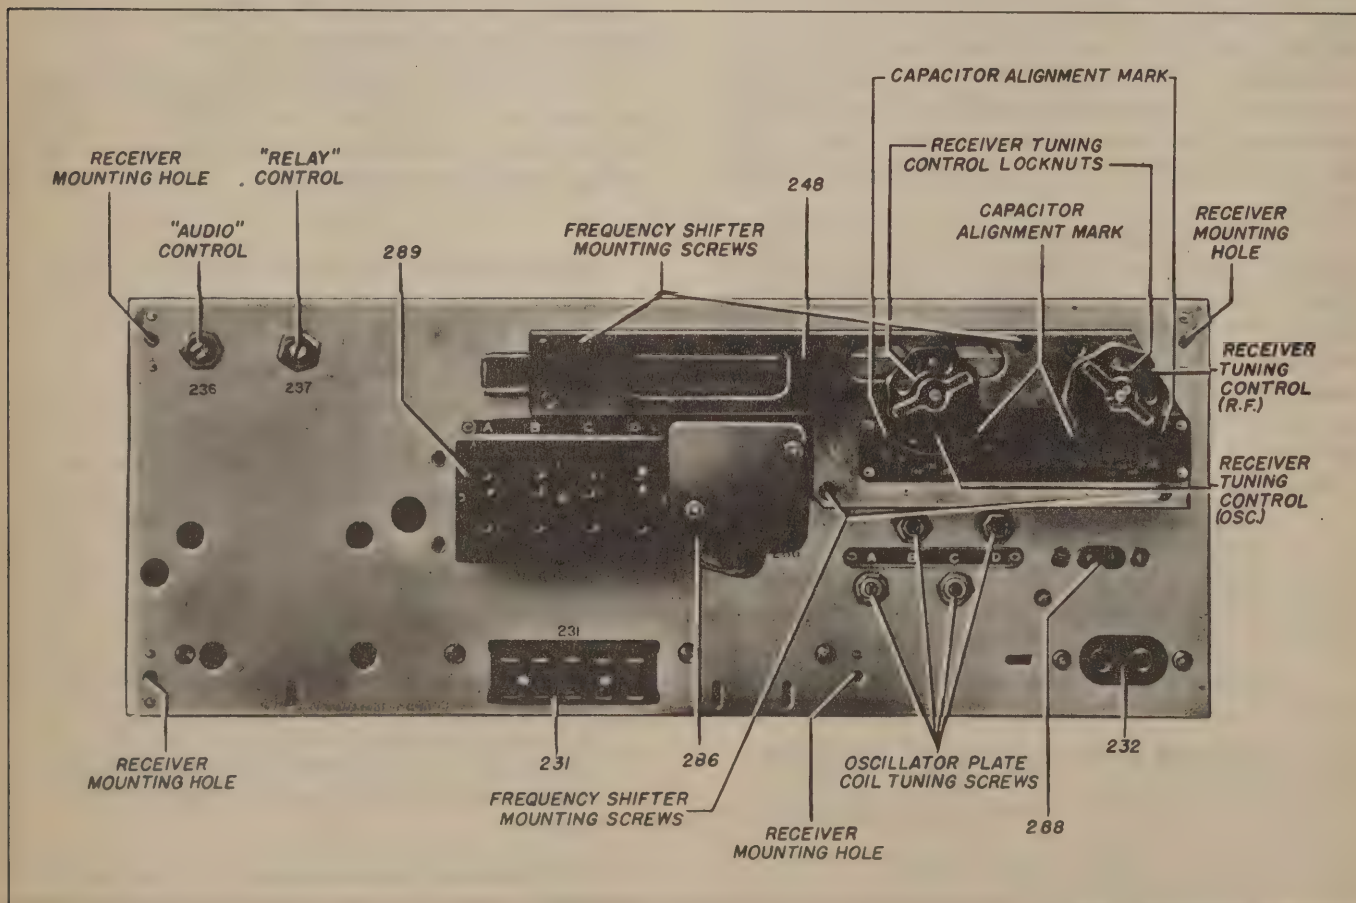

Figure 5-11. Radio Receiver BC-624-A or BC-624-AM—Top View
(4) Remove the transmitter-receiver assembly from Case CS-80-A or CS-80-C.
(5) With Signal Generator I-96-A set up within 5 feet of the radio receiver to be tuned, plug one end of the signal-generator d-c meter cord into the receiver control milliammeter socket 288 located on the receiver control panel (see fig. 5-11) and plug the other end into the "D.C. METER" socket located on the signal-generator meter panel. Plug the i-f test cord into the signal-generator "I.F. OUTPUT" socket marked "HIGH." Connect the "OUTPUT" terminal of the i-f test cord to the mixer-tube grid lead on the right side of the receiver and connect the "GND" terminal to the variable capacitor frame as shown in figure 8-19. Keep these leads as short as possible and in no case let them exceed 11½ inches. Otherwise the i-f amplifier may feed back and oscillate or be difficult to tune properly.